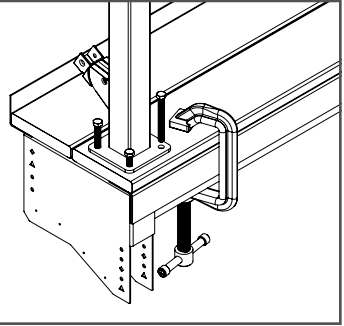

Fig. 86
8. Fasten bolts onto bottom of Stair Step using nuts and washers. As shown in Fig. 86.